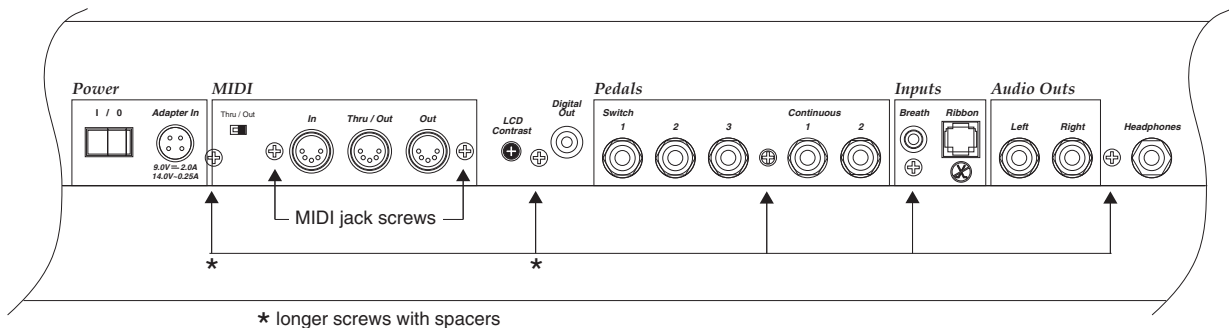

Figure 4-7 Rear panel hardware locations
6. Remove the five screws that secure the Connector Board to the rear panel. Two of these screws are longer than the others and have spacers located between the screw and the rear panel. See Figure 4-7 for the locations of the screws and spacers.
7. Remove the two screws that secure the MIDI jacks to the rear panel. See Figure 4-7.
2. Install the two screws that secure the MIDI jacks to the rear panel. See Figure 4-7.
3. Install the five screws that secure the Connector Board to the rear panel. Be sure to place a spacer and use one of the longer screws at the locations noted in Figure 4-7.